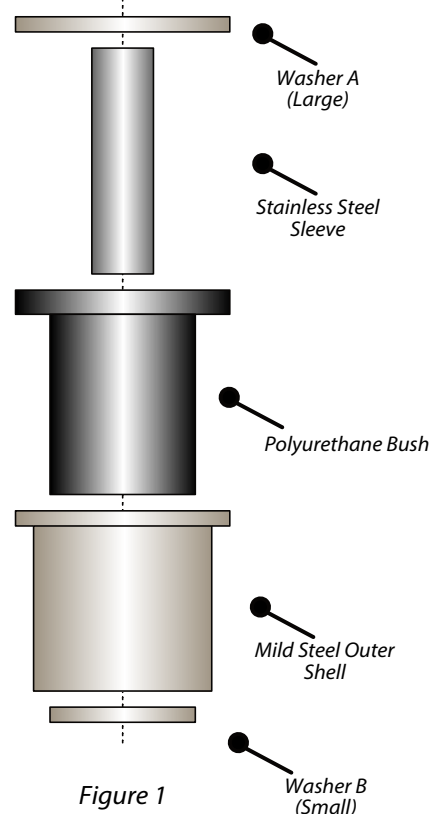

Figure 1
6. Apply a small amount of the grease to the end faces of the bush prior to adding the washers to assist rotation. Place Washer A against the larger end of the bush and Washer B against the smaller end of the bush (as shown in Figure 1).